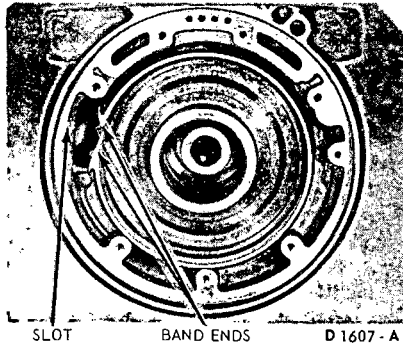

FIG. 34—Removing or Installing Band
11. Rotate the band 90° counter-clockwise to align the ends with the slot in the case (Fig. 34). Slide the band off the direct drive clutch drum.